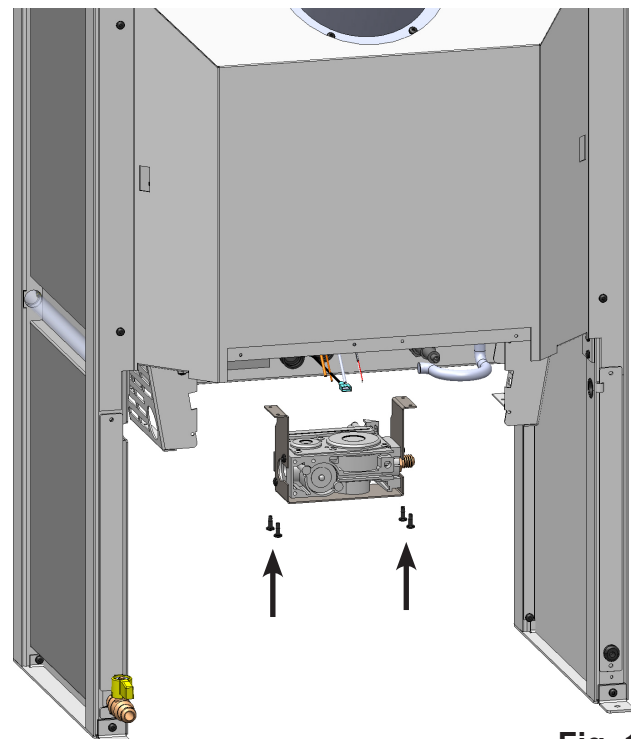

Fig. 18
6. Remove the four screws holding the valve bracket to the firebox bottom then remove valve (**Fig. 18**).